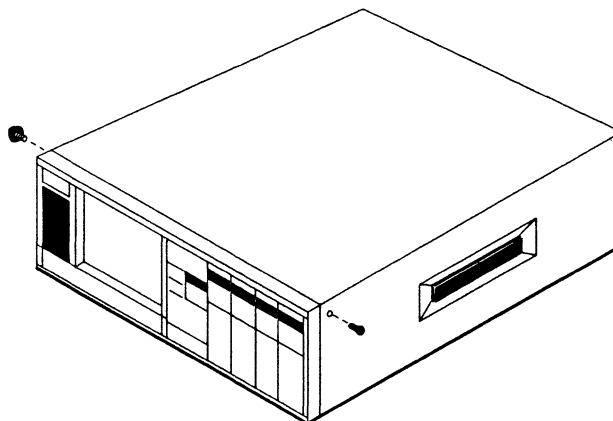

Figure 2 - Remove the scope's mounting foot and plastic insert.
2. Unscrew the top, left side mounting foot from the scope (Figure 2). Store it in a safe place for future use.
3. Using a pliers, carefully unscrew the black plastic insert from the top, right side of the scope while pulling on the insert (Figure 2). Store it in a safe place for future use.